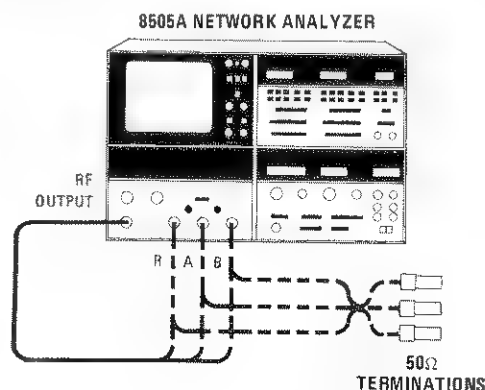

Figure A2-15. Crosstalk Isolation and Noise Floor Test Setup
- o. Connect equipment as shown in Figure A2-15, with RF OUTPUT cable connected to "R" input and the two 50-Ohm terminations to "A" and "B" input ports. Set OUTPUT LEVEL dBm switch to -10 dBm.